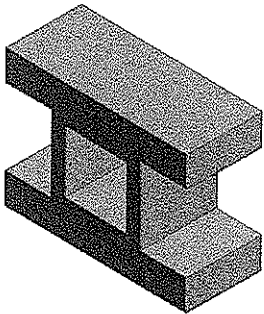

Figure 3-47 The model after creating the cutout
27. Next, to complete the process of material removal, choose the **Generate** tool from the **Features** toolbar; the cutout feature is created, as shown in Figure 3-47. Also, the yellow thunderbolt symbol is changed to green check mark, indicating that the feature is updated.